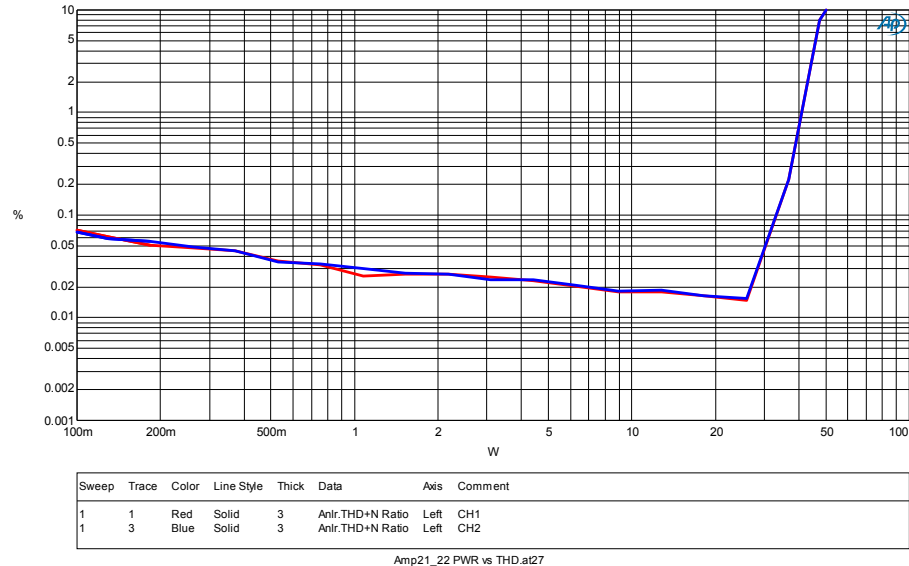

Figure 3
15. For all subsequent tests as shown on the Audio Precision graphs below (Figure 3-Figure12), the measurements are taken across J3 and J4 with an AES-17 Filter. Observe that a 1 V_{RMS} input generates an output around THD+N=1% power level.